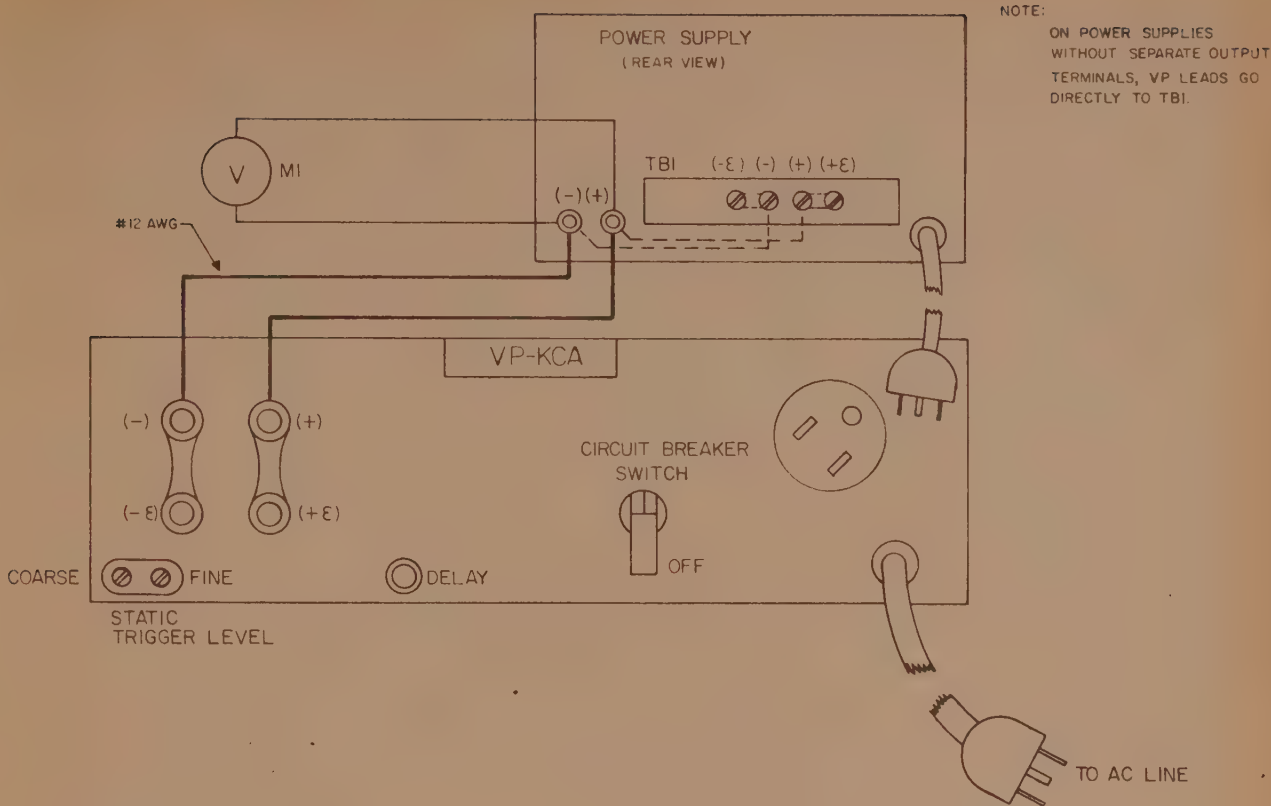
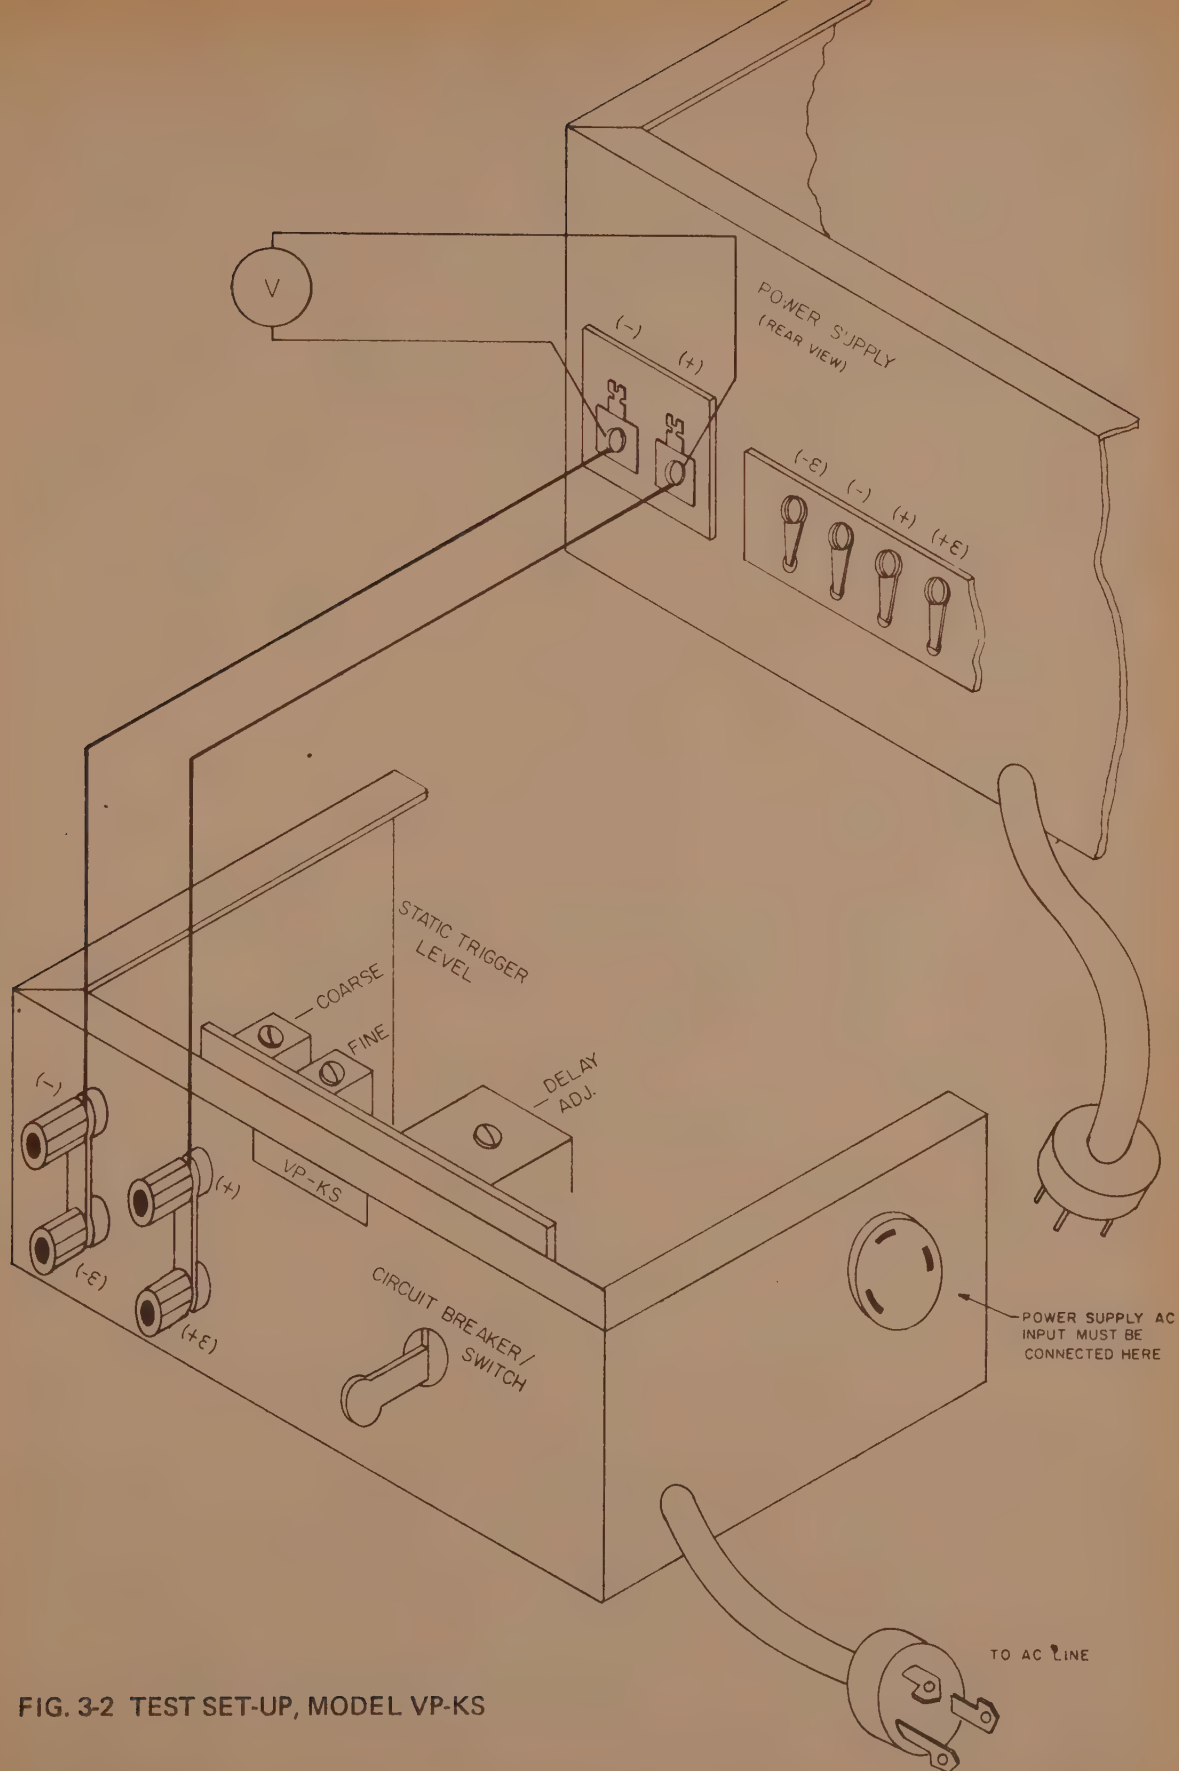

FIG. 3-1 TEST SET-UP, MODEL KCA
FIG. 3-2 TEST SET-UP, MODEL VP-KS
3-2 The static trigger level controls (COARSE and FINE) on the VP Overvoltage protectors are factory adjusted to their maximum operating range (30 volts or 160 volts respectively) and must be adjusted to the desired level before the actual load is connected to the power supply/VP combination. Connect the test set-up as shown in FIG. 3-1 or FIG. 3-2 depending on the model of overvoltage protector used. Proceed as follows:
- b) Connect voltmeter (M1) and VP device to power supply as shown in FIG. 3-1 or 3-2.
NOTE: All Kepco power supplies have a rear barrier strip (TB1) with output and error sensing terminals as shown in FIG. 3-1. KS power supplies with high output current have additional heavy duty output terminals. THE VP-KCA AND THE LOAD MUST BE CONNECTED TO THE HEAVY DUTY OUTPUT TERMINALS, (on all KS power supplies so equipped) NOT TO TB1. On other power supplies not equipped with separate output terminals, all connections are made on the rear barrier strip (TB1)